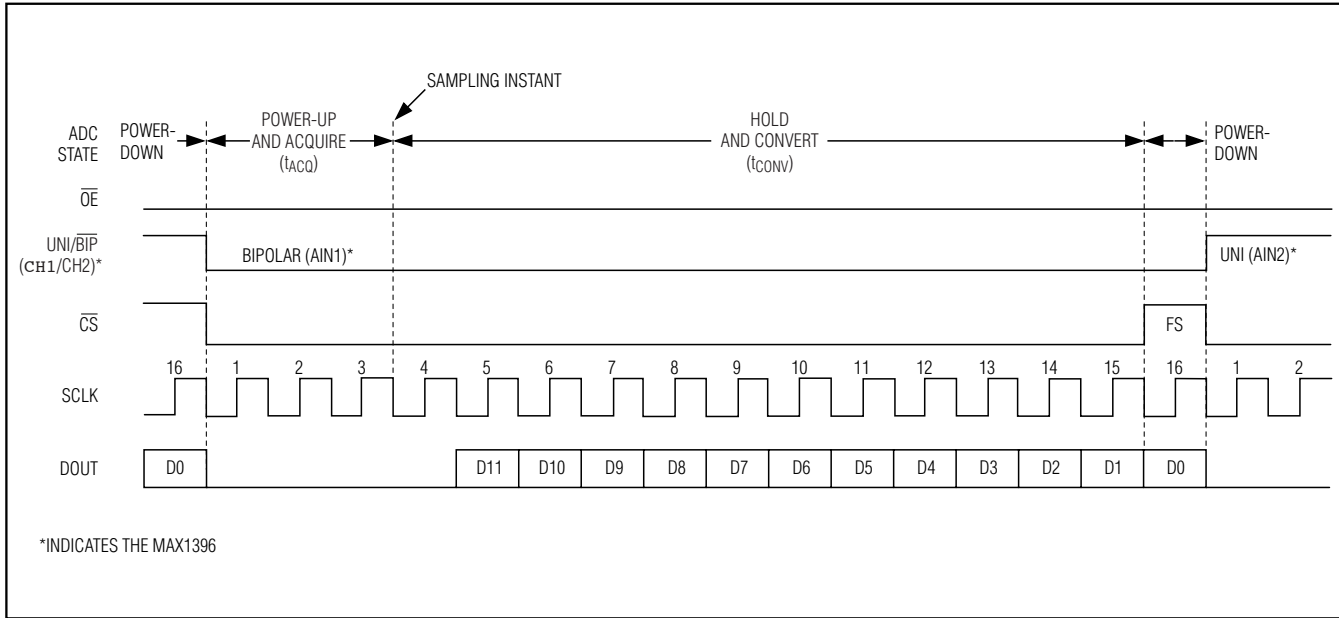
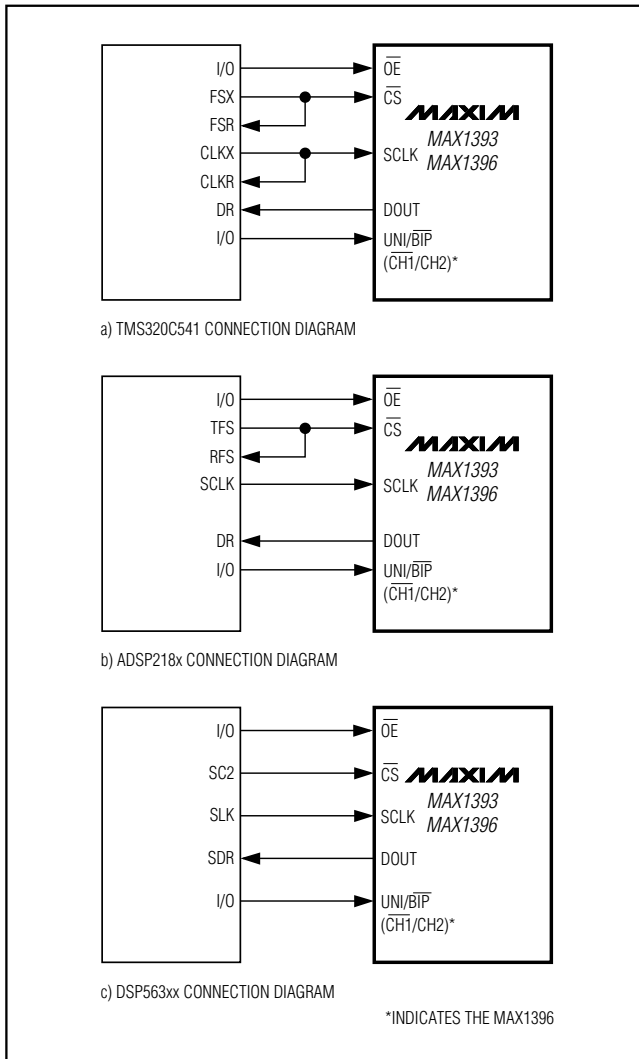

Figure 10. DSP Serial-Timing Diagram
Figure 11. Common DSP Connections to the MAX1393/MAX1396
Figure 10 shows the timing for DSP operation. Figure 11 shows the connections between the MAX1393/MAX1396 and several common DSPs.
As shown in Figure 11, drive the MAX1393/MAX1396 chip-select input (CS) with the DSP's frame-sync signal. OE may be connected to GND or driven independently. For continuous conversion operation, keep OE low and make the CS falling edge coincident with the 16th falling edge of the SCLK.